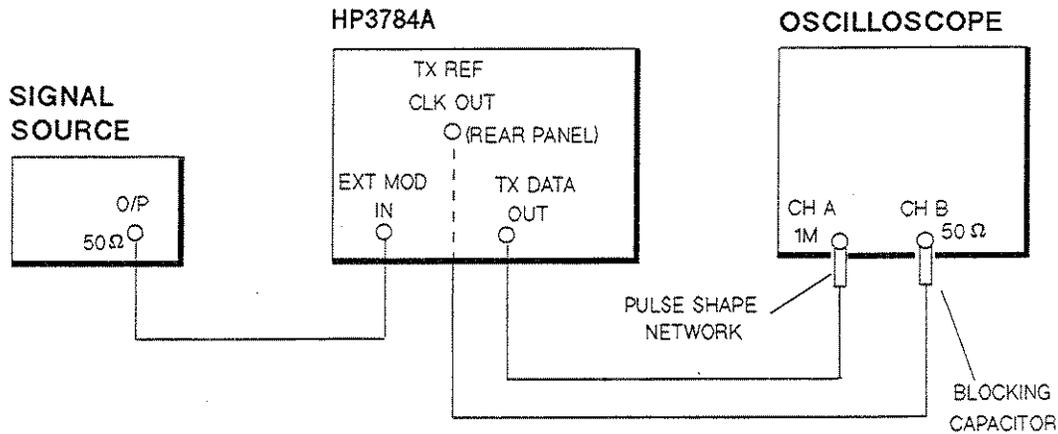

Figure 8-20 External Modulation Test Set-up (Data Output)
21. Connect test equipment as shown in Figure 8-20.